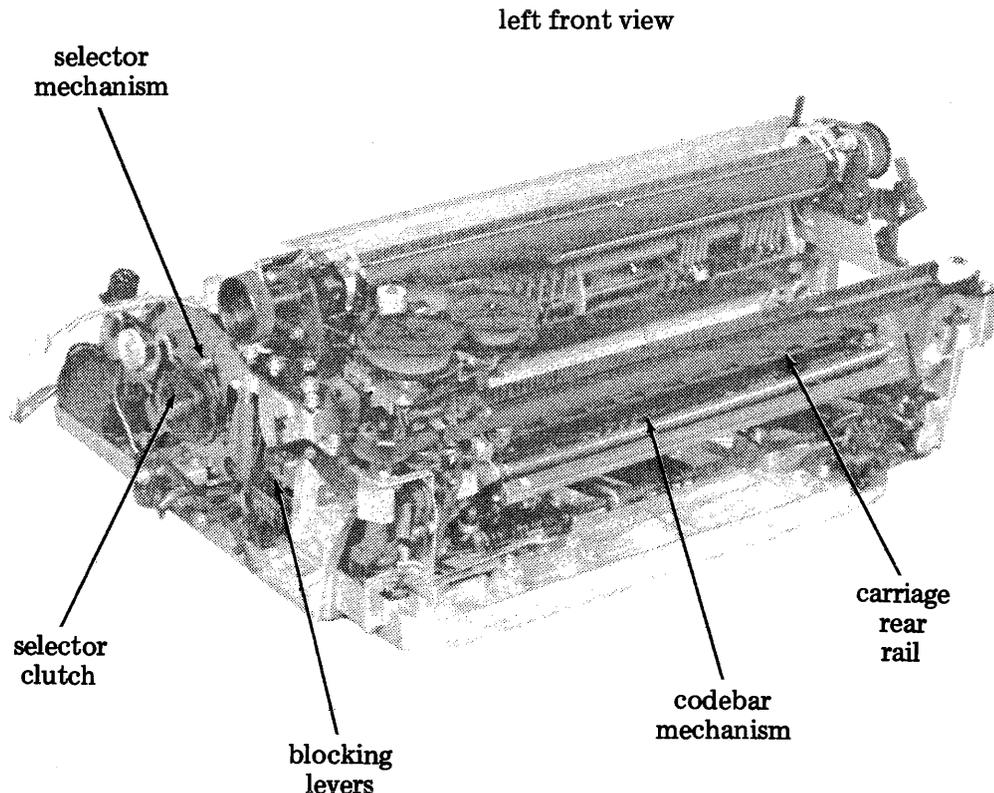

Figure 2 - Selector and Codebar Mechanisms
- 2.05 Disassemble selector mechanism (Figure 2) as follows:
- 2.07 Disassemble codebar mechanism (Figure 2) as follows: